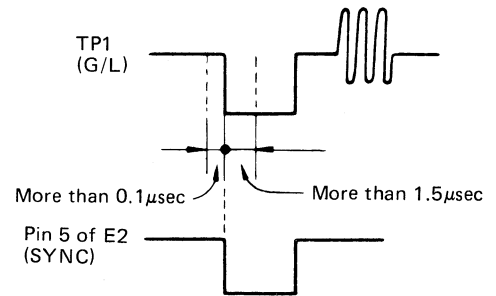

Fig. 4-2-4
- Confirm that the sync of gen-lock signal at G/L TP1 leads by more than $0.1 \mu\text{sec}$ and lags more than $1.5 \mu\text{sec}$ sync signal at pin 5 of E2 as H.PHASE VR2 is turned through its range. (Fig. 4-2-4)